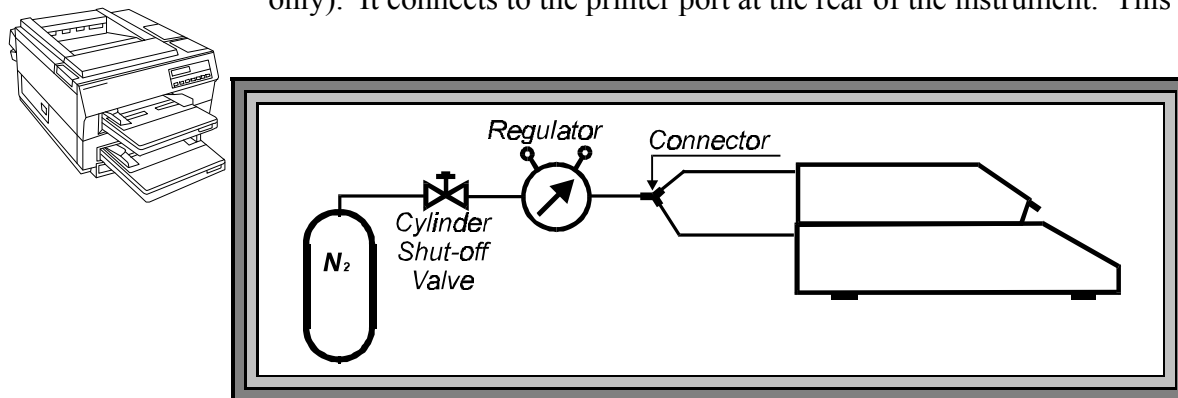

Figure 10 NITROGEN PURGE SETUP
- 4.7.5 Check that all fittings are gas tight and secure. Pressure should be deferred until the start of a test to conserve gas use. Flow rates between 4 and 5 psi are sufficient. **Figure 10** shows the nitrogen purge setup.